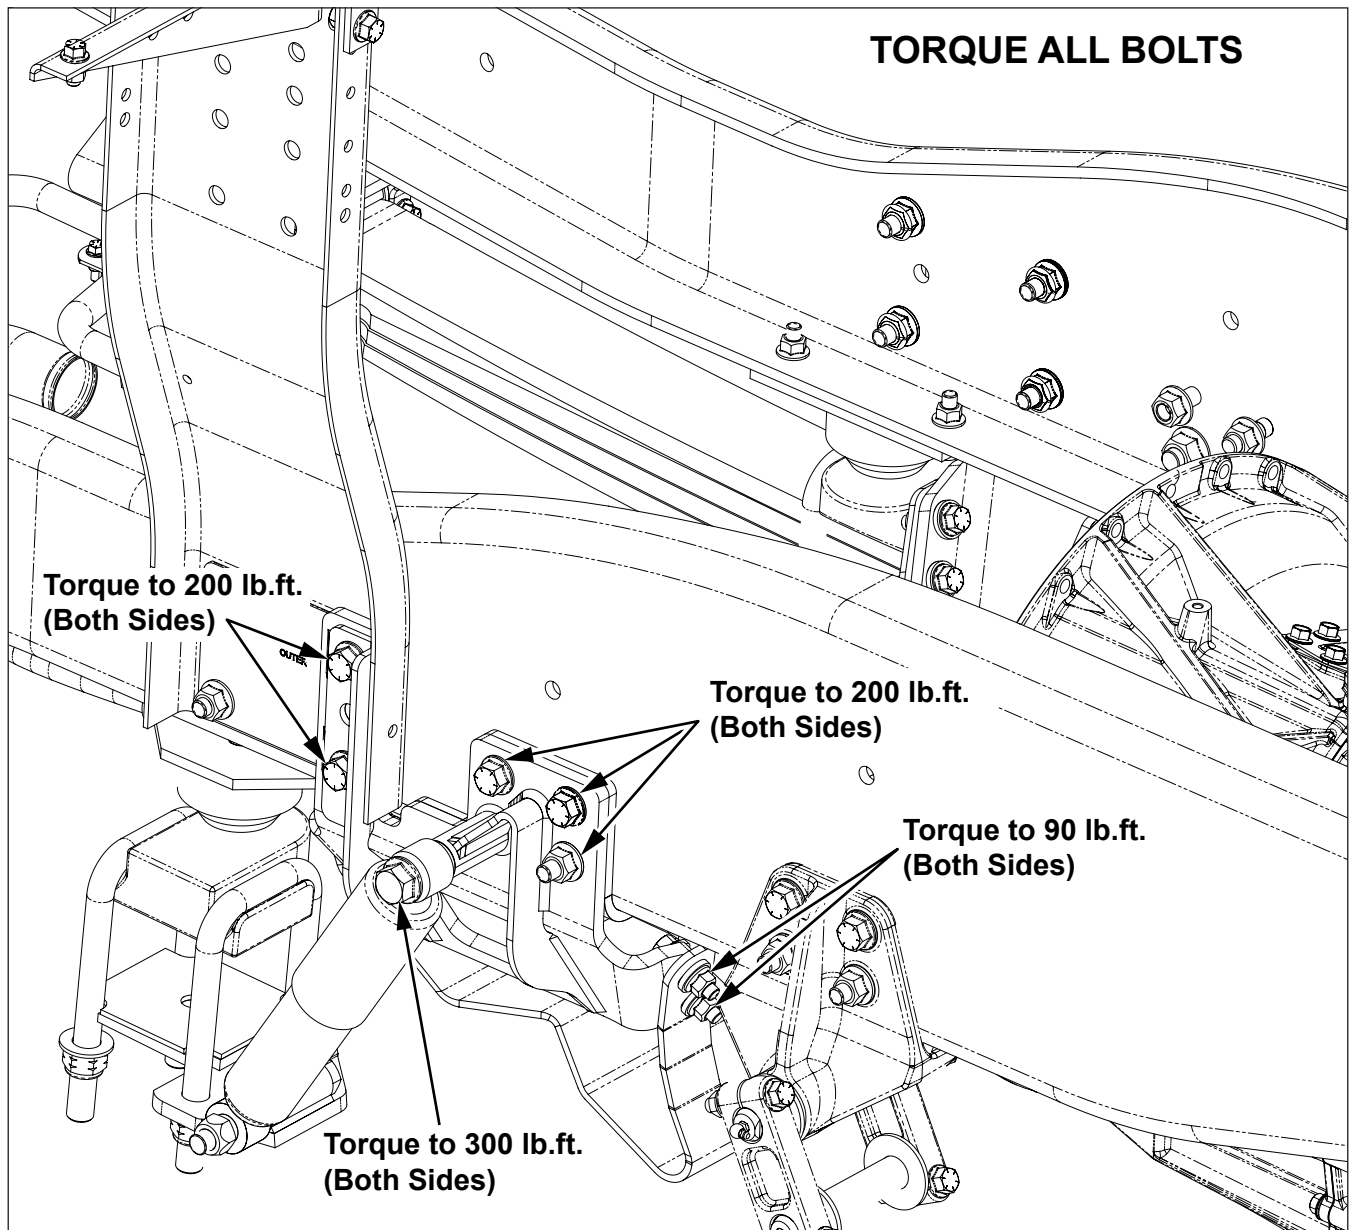

***Figure 22, Support Bearing Bracket***
14. Reinstall the drive shaft (lowered in Step 8) using 2 (FE410143AW16) bolts and 2 (FE286243BW01) locknuts and tighten to 65 lb. ft. of torque (see *Figure 22*).